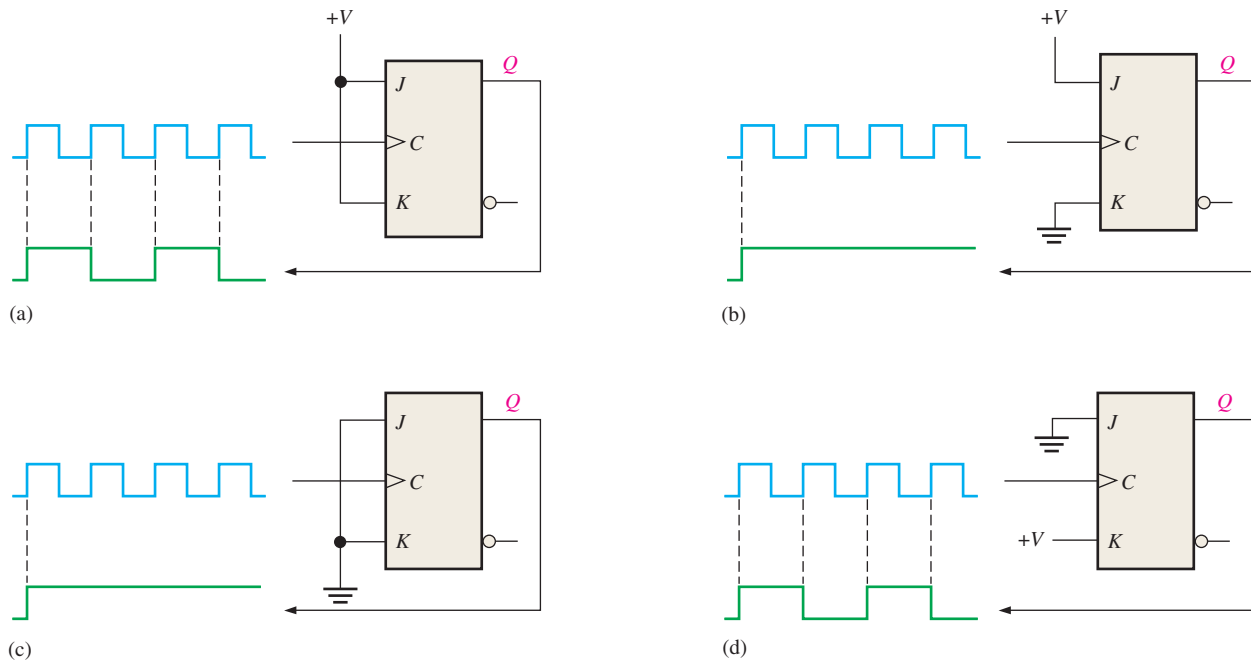

FIGURE 7-92
32. The flip-flop in Figure 7-92 is tested under all input conditions as shown. Is it operating properly? If not, what is the most likely fault?